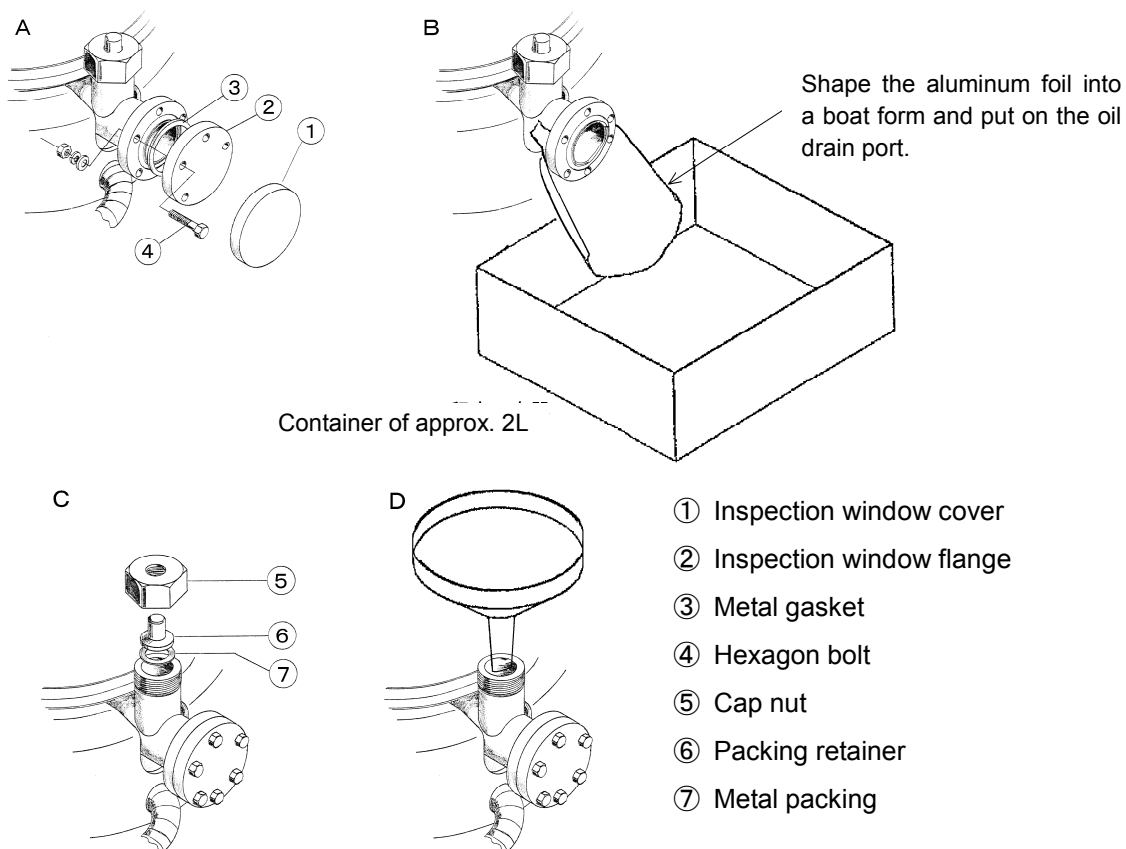

Figure 9: Oil replacement instruction diagram
**For ULK-10A,ULK-14A****Drain of working fluid (See Fig. 9)**
- (1) After stopping the pump following Section 4.3, check that the pump and oil are at a normal temperature again and then return the pressure in the pump to the atmospheric pressure.
- (2) Prepare an aluminum foil (approx. 100 × 160) and attach it as shown in (B).
- (3) Prepare a container of approx. 2L and place it under the drain.
- (4) Remove the hexagon bolt ④, remove the inspection window flange or the closure flange ② and metal gasket ③, and then drain the oil.
- (5) Attach a new metal gasket ③.
**Oil filling (See Fig. 9)**
- (1) Remove the cap nut ⑤.
- (2) Remove the packing retainer ⑥ and the metal packing ⑦.
- (3) As shown in (D), set a clean funnel at the oil filler port.
- (4) Pour a specified amount of oil.
- (5) After the completion of oil filling, attach the cap nut ⑤, packing retainer ⑥, and metal packing ⑦.